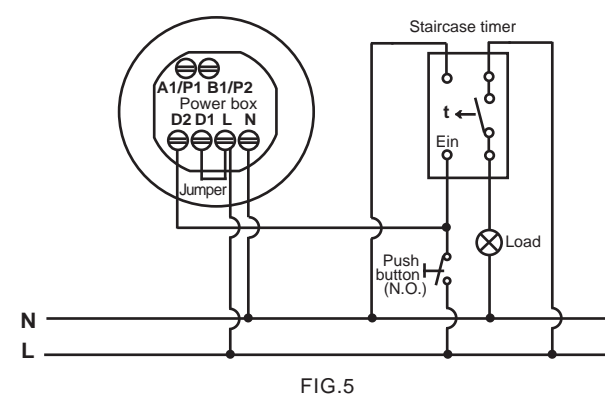

FIG.5
3.2.1.3 One sensor controls staircase timer (Set the time knob to \sqrt{t}) (See FIG.5).